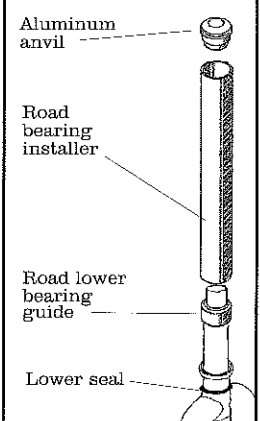

Fig. 26
17. Place the **road lower bearing guide** over the end of the steerer tube (Fig. 26).